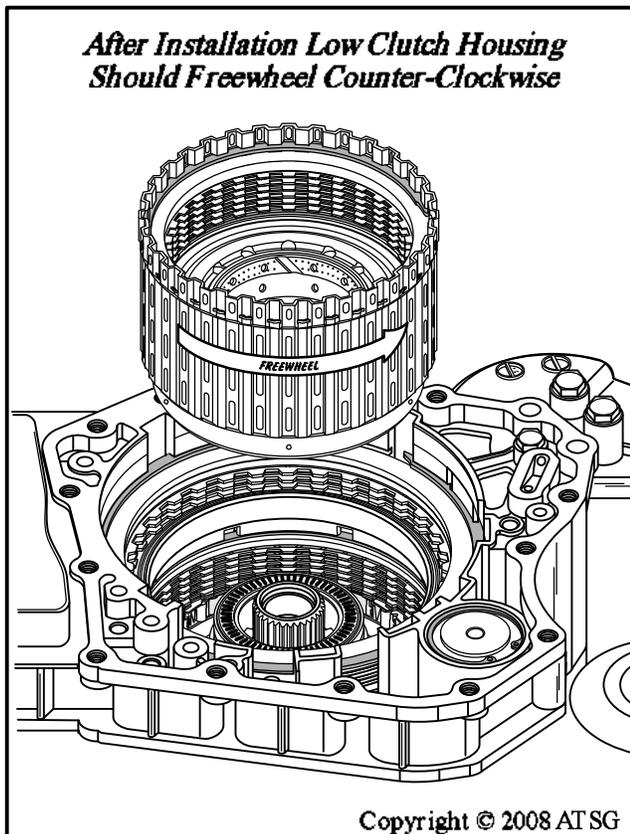

Figure 198
22. After installation, check the rotation of the low clutch housing, as shown in Figure 198.
Note: Low clutch housing should freewheel counter-clockwise and lock clockwise, as shown in Figure 198.